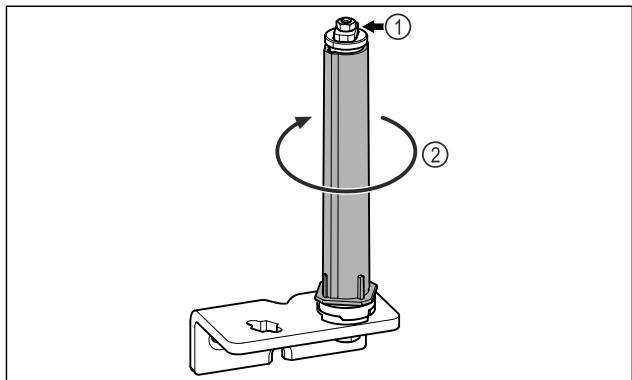

Fig. 21
- Turn the locking system Fig. 21 (2) until it clicks.
- Do not dismantle the door locking system Fig. 21 (1).